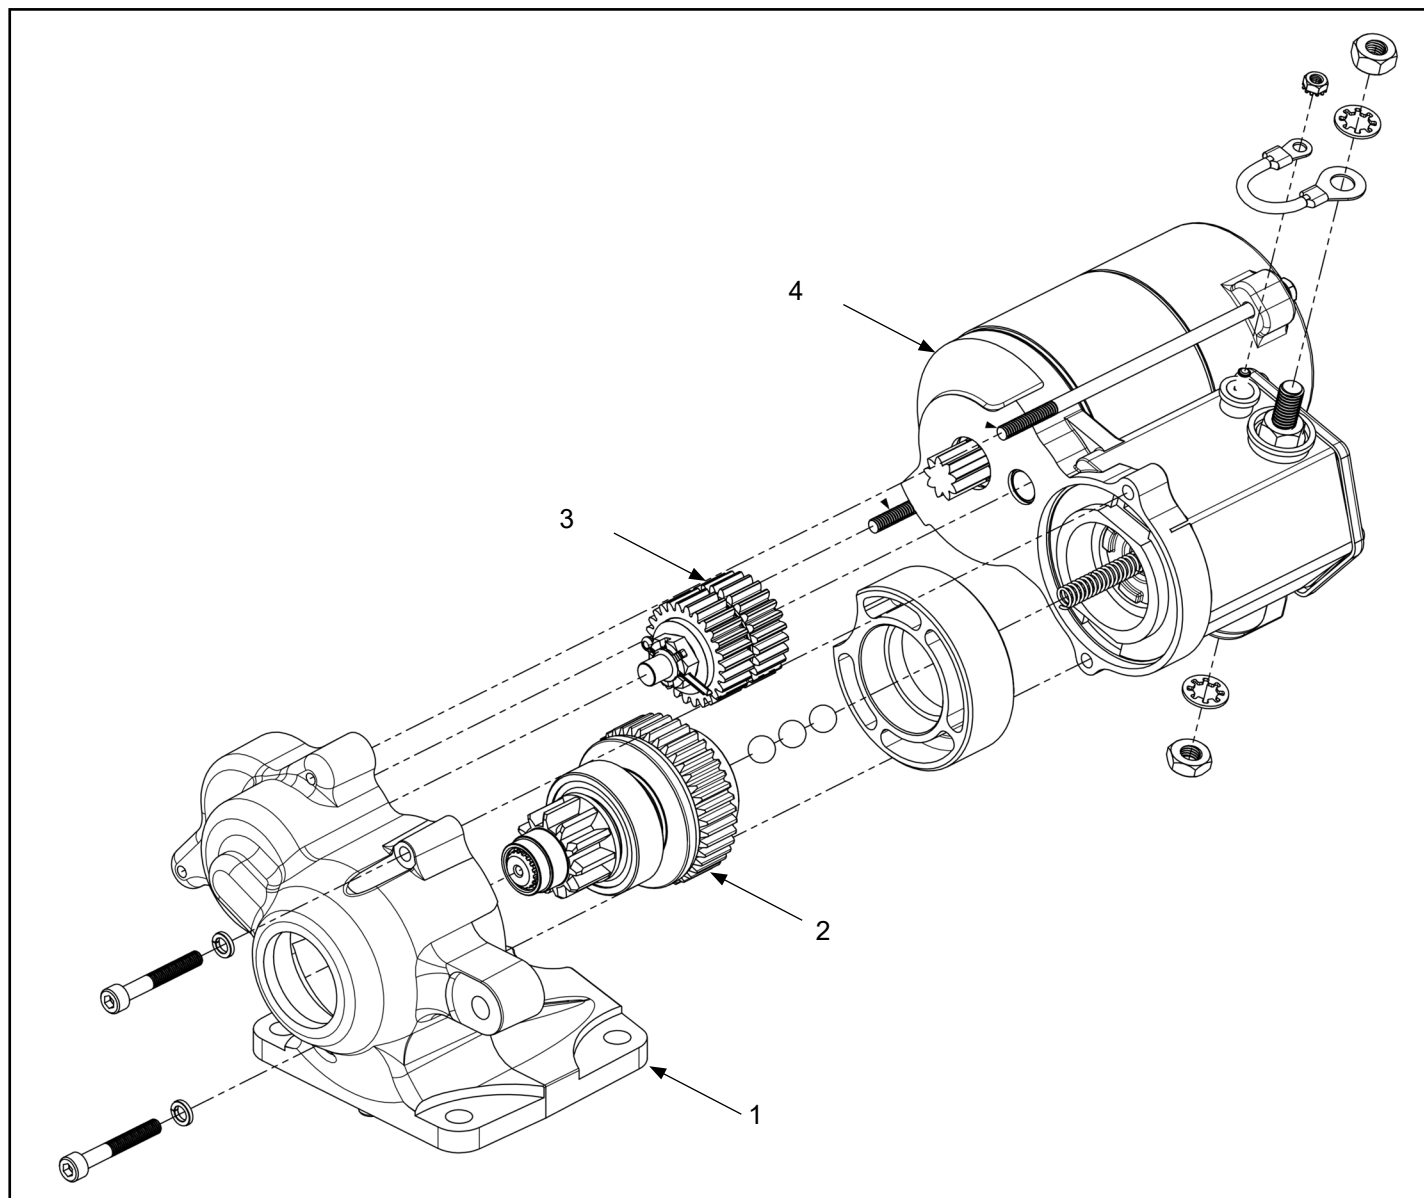

Fig. 2-1 - Typical 149-12HT / 24HT Starter (Basic Components)
- A. The principle components of HT starters described herein are (1) mount assembly (2), drive assembly (3), idler gear and clutch assembly, and (4) solenoid/motor assembly, see Fig. 2.1.